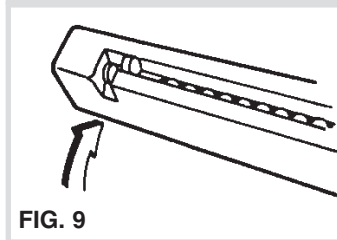

FIG. 9
4. Before inserting Quick Change Clip back into gun, slowly release the Quick Change Clip follower to allow it to rest up against the BBs. This will allow the BBs to be under spring tension (see Fig. 9).